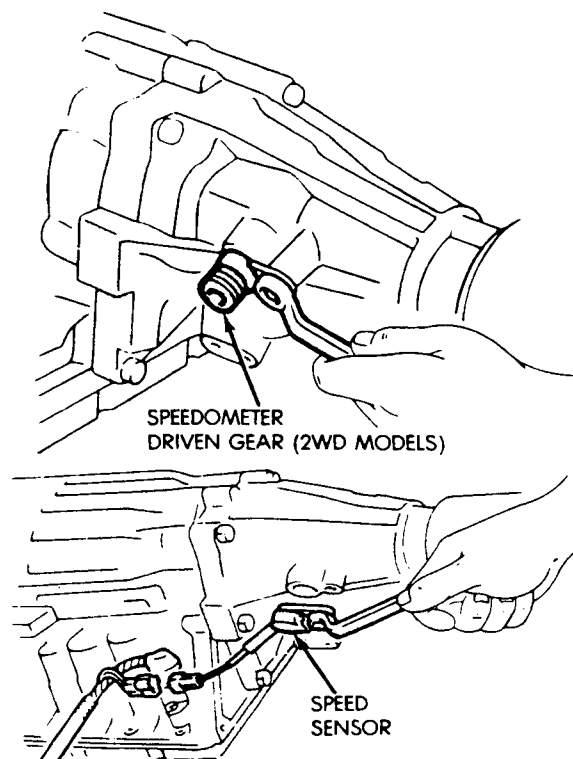
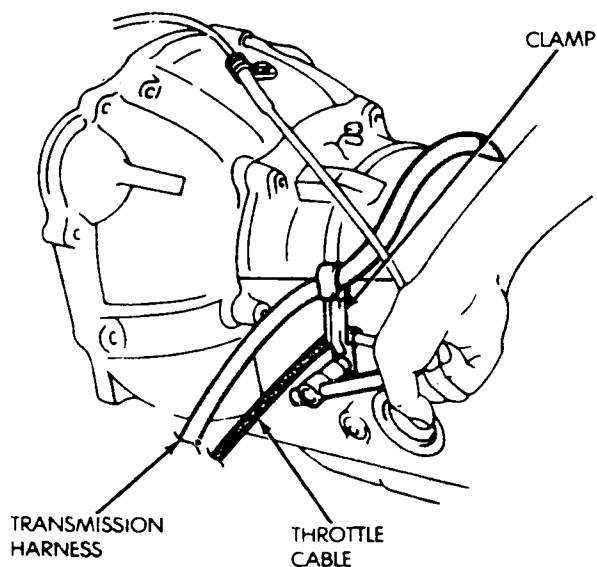

Fig. 2 Removing/Installing Speedometer Driven Gear And Speed Sensor
Fig. 1 Remove Harness And Cable Clamp
- (1) Remove torque converter.
- (2) Remove dipstick and both halves of oil filler tube.
- (3) Remove clamp attaching wire harness and throttle pressure cable (Fig. 1) to transmission.
- (4) Remove shift lever from manual valve shaft at left side of transmission.
- (5) Remove neutral switch.
- (6) Remove speedometer driven gear (if equipped) and remove speed sensor (Fig. 2).